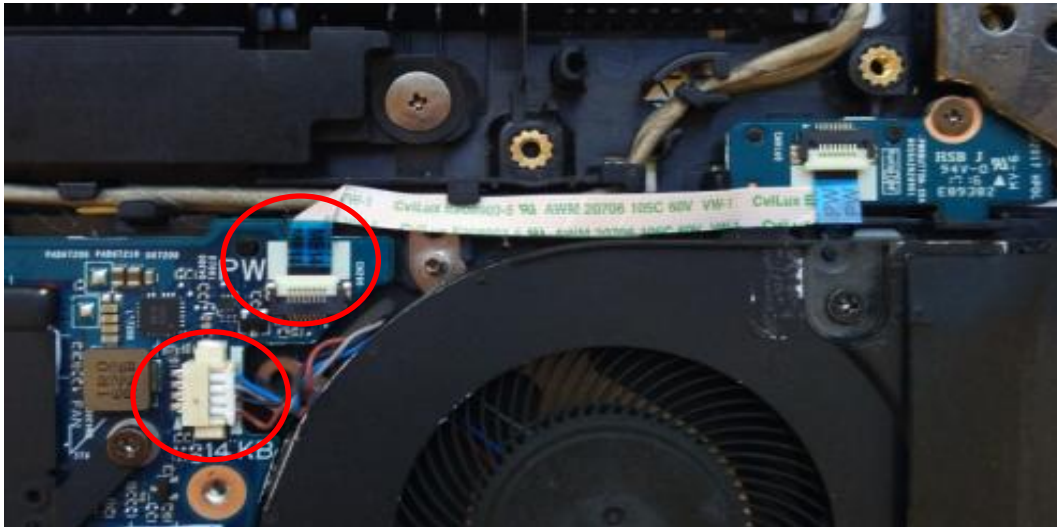
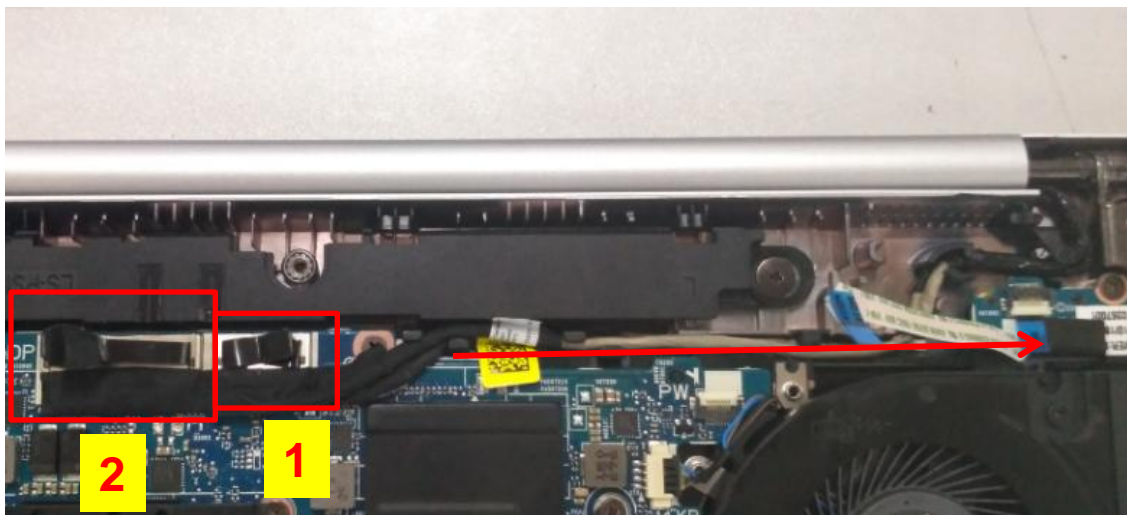

Fig.1
Fig.2
1. Disassemble Power FFC, FAN cable, LVDS cable, CCD cable(Fig.1/Fig.2).